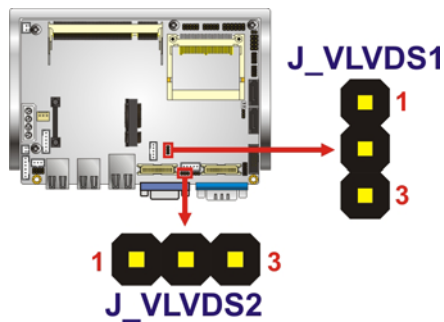

Figure 4-10: LVDS Voltage Selection Jumper Pinout Locations
- Jumper Location:** See **Figure 4-10**